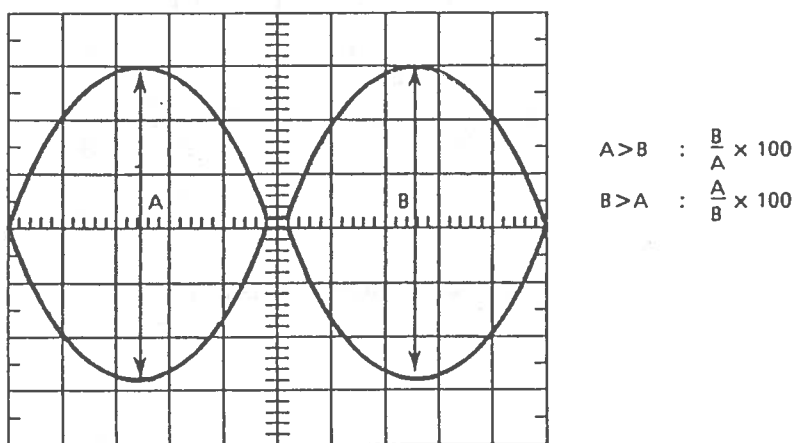

Fig. 9.2 Radial Alignment Waveforms (CATS EYE)
- (2) Step to the track specified in the Radial alignment column of Table 8.1.
- (3) Leave the oscilloscope in the same condition as mentioned in section 9.3.
- (4) Check the output waveforms for sides 0 and 1. They should appear as in Fig. 9.2.
- (5) The two waveforms should appear in the amplitude ratio in the R/A column of Table 8.1 or better.
- (6) If the specified ratio is not satisfied, loosen the two mounting screws for the stepper motor.
- (7) Move the stepper motor along the base by hand until the two waveforms assume approximately the same amplitude, and retighten the mounting screws. (See Fig. 9.2.)
- (8) Step the head outward (track 0) and inward (track 40 or 79), and confirm that the adjustment has been completed.
- (9) After the radial adjustment, be sure to confirm track 00 sensor adjustment 9.9